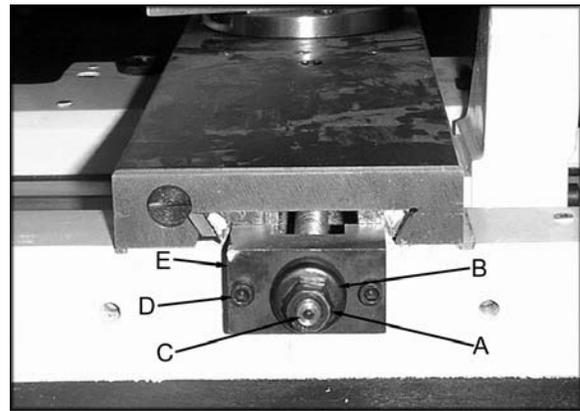

Figure 1
3. Remove the dust cover (29) held in place with six screws (5).
7. Remove two nuts (A, Figure 1) and the bearing cap (B, Figure 1) from the end of the cross slide screw (C, Figure 1)
9. Remove two hex socket cap screws (D, Figure 1) and the block (E, Figure 1).